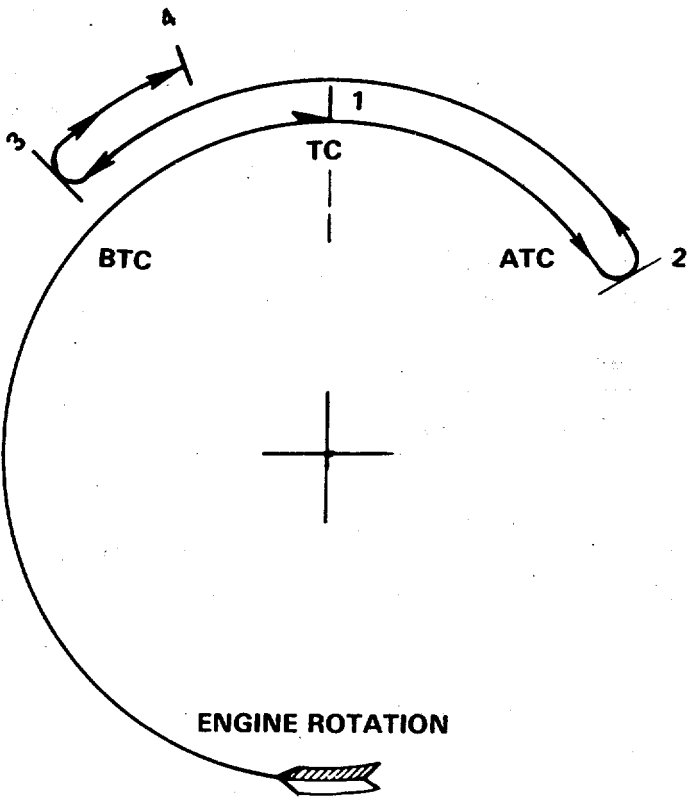

Figure 3-38. Crankshaft Rotation for Timing.
- (d) Install the piston plunger rod (13) into the injector sleeve of the No. 1 cylinder.
- (e) To fasten the timing tool to the cylinder head, install the adapter screws (11) through the mounting foot (14) and into the holes for the injector holddown plate.
- (f) Use the tightening rod (9) to secure the adapter screws.
- (g) Loosen the clamp handle (1) and align the push rod adapter.
- (h) Secure the clamp handle (1). Loosen the bolt in support bracket (10).
- (i) Slide the bracket down until the adapter (12) engages the push rod. Then, compress the tension spring for the adapter approximately 0.50 inch (12.7 mm).
- (j) Secure the bolt in support bracket (10). Make sure the support bracket is aligned with the vertical line located on the clamp handle bracket.
- (k) Using a socket on the end of the accessory drive, rotate the crankshaft in the direction of engine rotation to the Top Dead Center (TDC) position of the compression stroke for the No. 1 cylinder (1, FIGURE 3-38).
- (q) Rotate the crankshaft in the direction of engine rotation (clockwise) to 90 degrees after Top Dead Center (ATDC), (2, FIGURE 3-38). The piston travel plunger will be at the NH/NT 90 degree mark on the timing tool.
- (x) Continue to rotate the crankshaft past TDC until the indicator shows 0.225 inch (two and one-fourth revolutions of the indicator needle past TDC) (3, FIGURE 3-38.) This step is necessary to take up the gear lash in the engine.
- (y) Rotate the crankshaft in the direction of engine rotation until the piston travel gauge is at 0.2032 inch BTDC (4, FIGURE 3-38.)